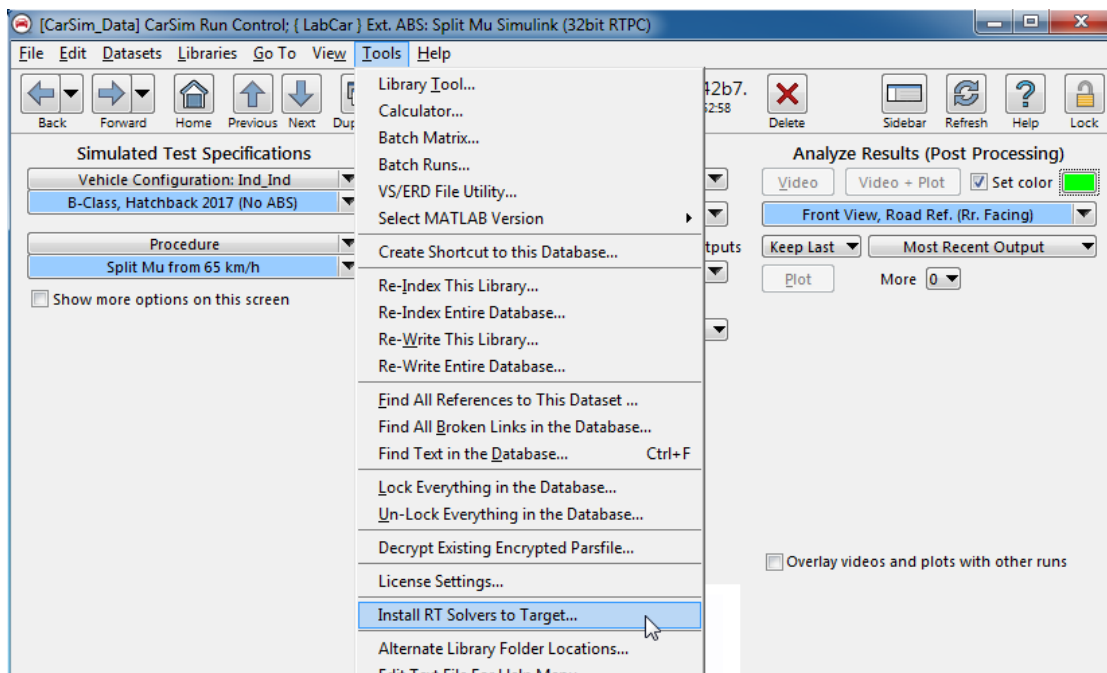
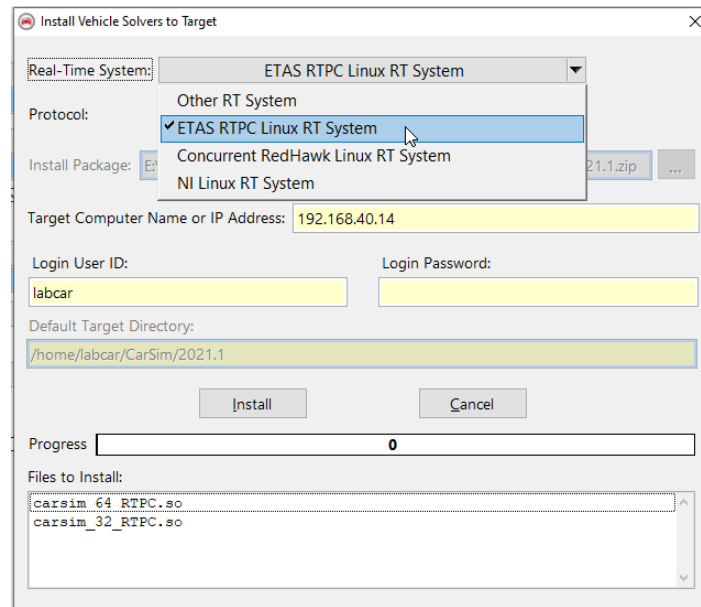

Figure 1. Tools menu to install VS RT solvers.
Figure 2. Select a target RT System to install Vehicle Solvers.
2. Select the **Tools** menu command **Install RT Solvers to Target ...**, (Figure 1). This opens a solver installation window (Figure 2).